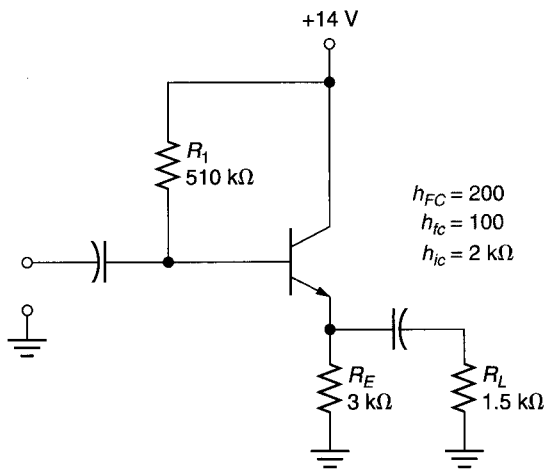

FIGURE 10.24
13. Determine the value of  $Z_{in}$  for the circuit shown in Figure 10.24.